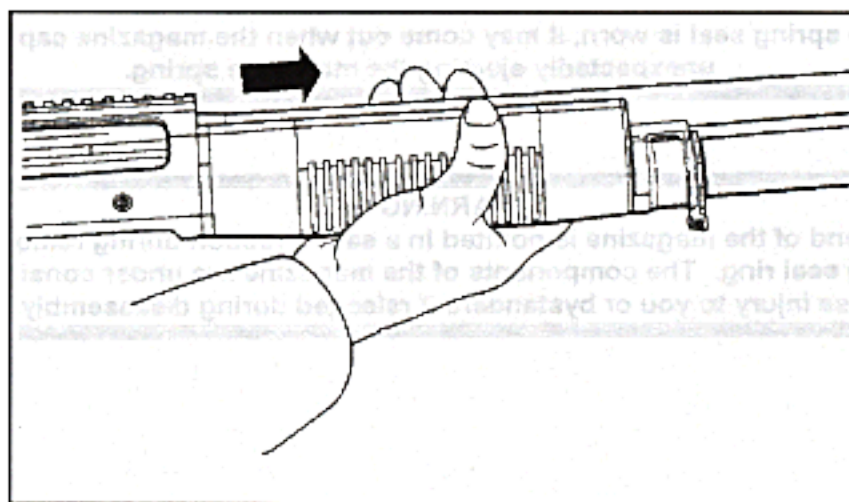

Figure 16. Removing the barrel with forearm from the receiver
6. **Remove barrel and forearm (Figures 16 through 16c)**